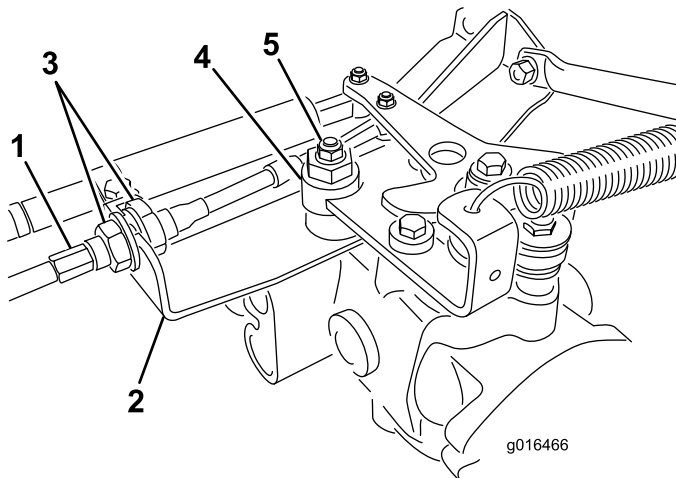

Figure 43
- A. Loosen both jam nuts securing the traction control cable to the bulkhead on the hydrostat (Figure 43). Make sure that the jam nuts are loosened equally and sufficiently to allow adjustment.
- B. Loosen the nut securing the eccentric to the top of the hydrostat (Figure 43).
stops rotating, tighten the nut locking the eccentric and the adjustment (Figure 43). Verify the adjustment with the throttle in the SLOW and FAST positions.
- E. From each side of the bulkhead, tighten the locknuts **evenly**, securing the traction cable to the bulkhead (Figure 43). Do not twist the cable.